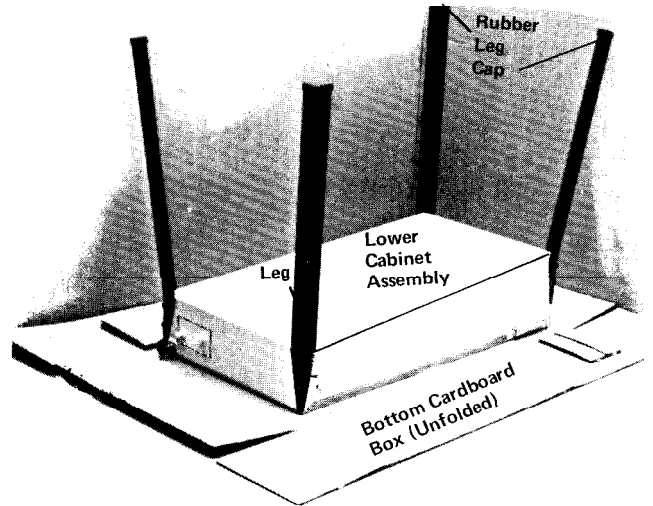

FIGURE 1
2. Carefully turn lower cabinet assembly upside-down as shown in Figure 1.
3. Securely fasten the 4 legs using the 8 Hex Head Machine Screws from the hardware bag, then fit the rubber leg caps over the end of the legs. (Figure 1)